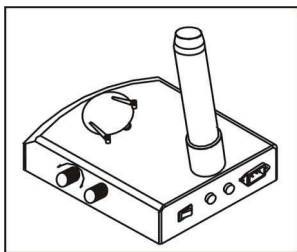

Fig. 10
- 1) Press the stage on the sunken place then the other side will be lifted. (Fig. 10)